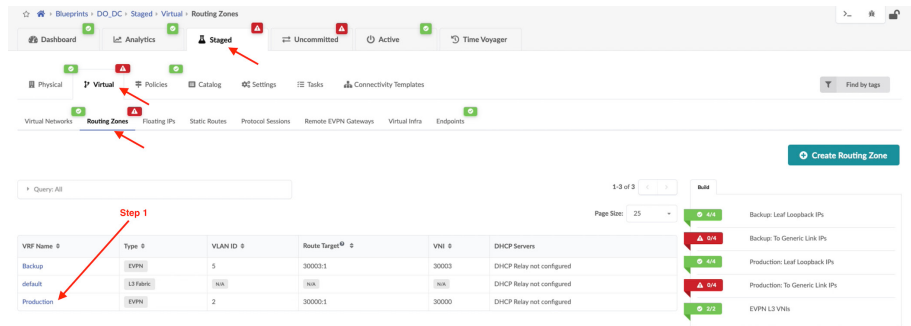

Figure 6.18 Assigning IP Addresses to Physical Links
Step 1. In the Staged > Virtual > Routing Zones tab, click on the Production VRF. See Figure 6.18.